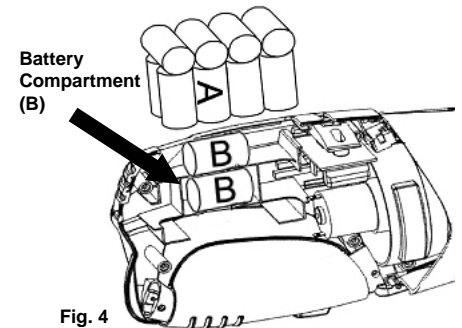

Fig. 4
7. Replace strap around new battery pack (A).
8. First insert batteries (B) into side compartment, inside the battery compartment. (Fig. 4)